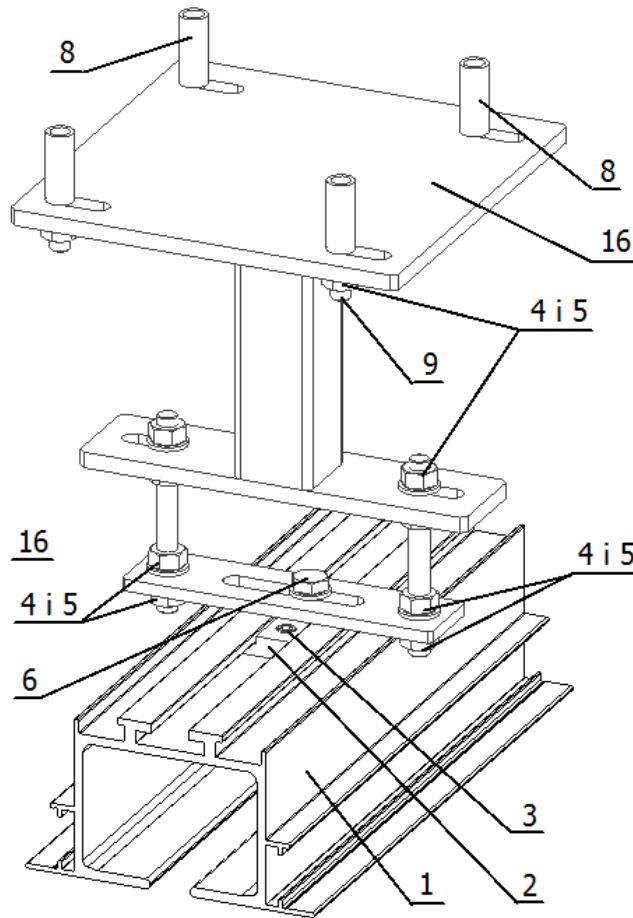

Fig.20. Scheme of track mounting with a steel bracket
The above solution, where the transverse track is **behind any roll of the panel (Fig.20)**, should be used if:
- suspension on the bracket (Fig.20)